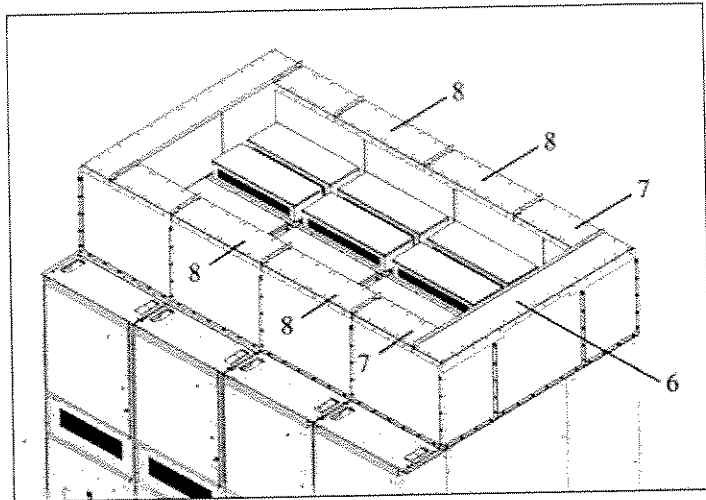

Figure 18. Middle Roof Extension Panel Installation - Completion.
6. Continue placing middle roof extension panels (8) until reaching the other end of the switchgear lineup (see Figure 18). When the other end of the switchgear lineup is reached, install the last two end roof extension panels (7) and end roof panel (6) as done in prior steps.